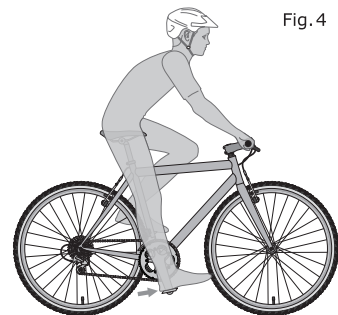

Fig. 4
**1. Up and down adjustment.** To check for correct saddle height [Fig. 4]: